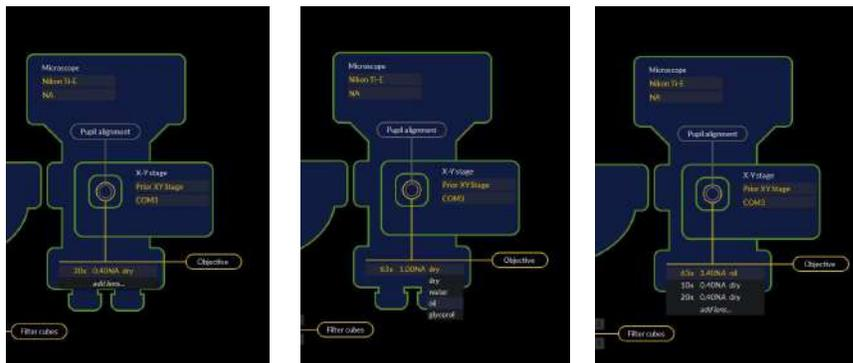

Figure 5.1.6 Entering details of objective lenses
8. Enter the details of the objectives installed on your microscope into the objective list by clicking on the pull down menu, shown in Figure 5.1.6. Click on add objective and type in the new details including numerical aperture and immersion conditions. The details of the objectives will be saved on entry and can be accessed/changed via the pull down menu at any time when required.